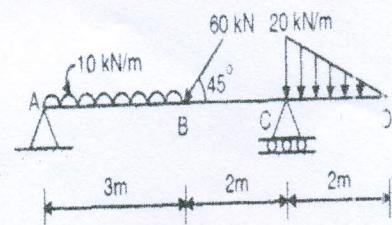

Fig:9, Q.5 (A) & Q.5 (B)
Q.5 [A] Find support reaction for the beam shown in Fig.9 [05]
[B] Draw shear force and bending moment diagram for the beam shown in Fig.9. [05]